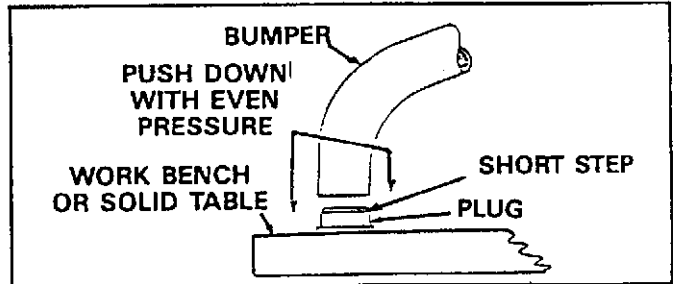

FIGURE 2
1. Place plug on a work bench or solid table. Set end of bumper onto plug until it rests on short step on plug. Using even pressure, push down on bumper until end of bumper slips over plug. See figure 2. Repeat for other end of bumper.